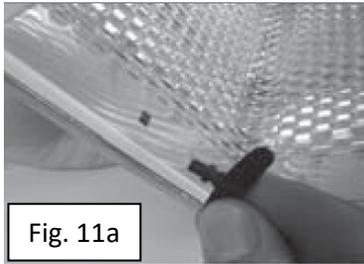

Fig. 11a
- Insert one key at a time in the pre-defined locations on the trim or trimless flange. [Fig. 11a – 11b]